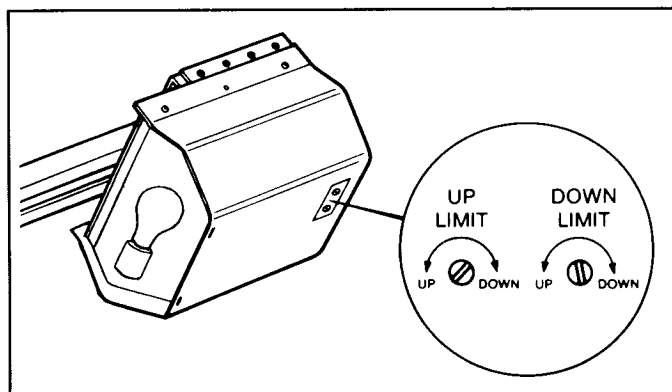

Figure 19. Adjusting Travel Limits.
Step 41: To increase the "down" distance, turn the slotted "Down Limit" screw in the clockwise direction. (See Figure 19). Note that each turn is equal to approximately one inch of door travel. Then estimate the number of turns required.